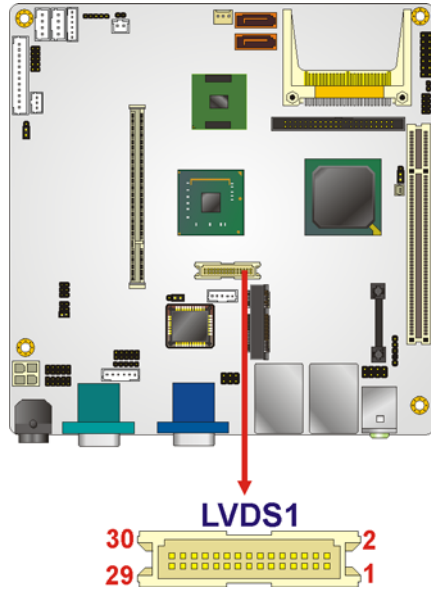

Figure 4-12: LVDS LCD Connector Pinout Locations
- CN Location:** See **Figure 4-12**